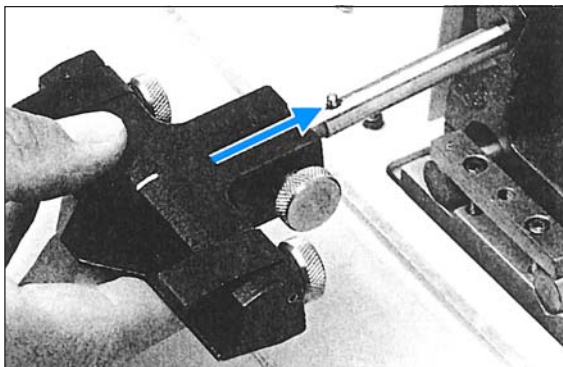

Abb. 11.1
5. To attach the knife holder to the knife carrier arm, turn the arm, by hand, so that the pin is vertical (**Figure 11.1**). Position the knife holder so that the blade clamps are „UP”.